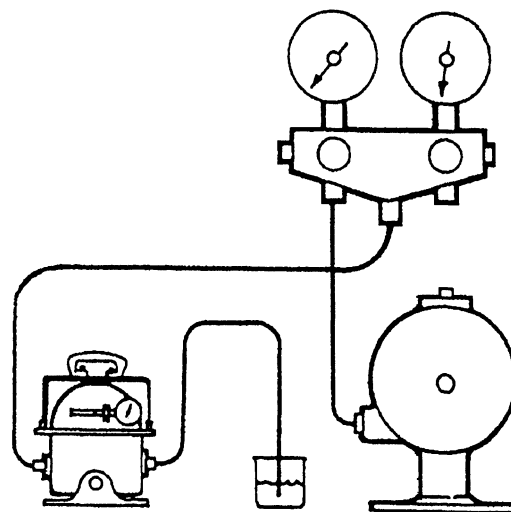

Figure 6-52.—Connections for drawing a vacuum.
4. Attach one end of a 1/4-inch copper tube to the vacuum pump discharge outlet (fig. 6-52). Allow the vacuum pump to draw a vacuum of at least 25 inches. Submerge the other end of the